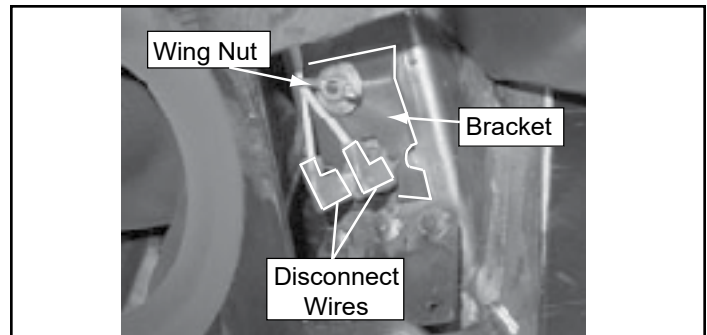

Figure 23.3
8. Disconnect wires from snap disc #2 (**Figure 23.3**).